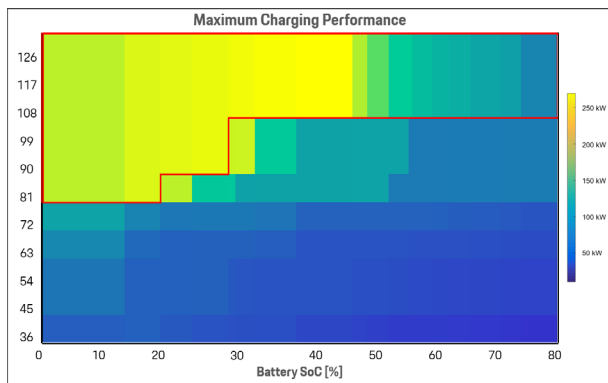

Figure 6
- The Maximum Charging Performance chart (Figure 6) provides an indication of how hv battery temperature and SoC conditions at the start of a charging session affect the theoretical maximum charging rate of the Performance Battery Plus under ideal conditions.